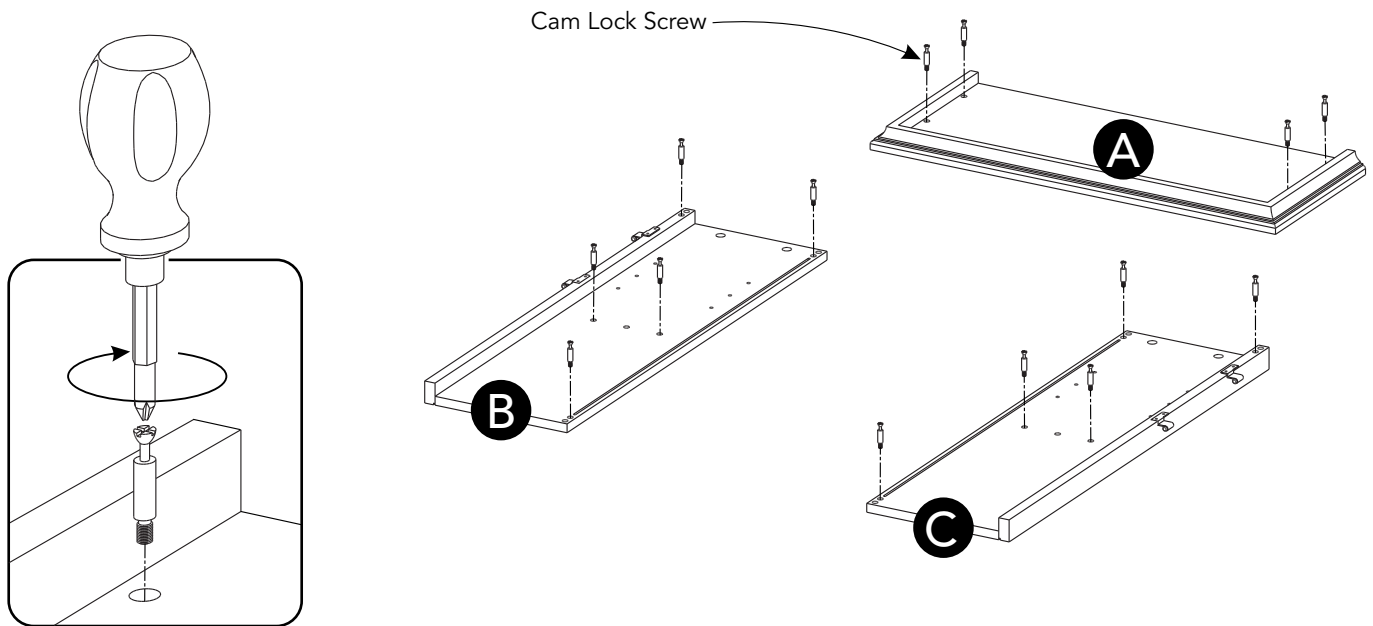

Figure 1
Insert Cam Lock Screws into pre-drilled holes in Top (A) and Side Panels (B), (C), then tighten. (See Figure 1)